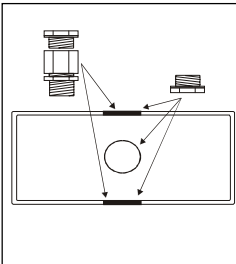

Fig. 1 : Cable Gland Positions
- 6 Make cable entry holes in the plastic and metal boxes by removing suitable knockouts (Refer to Fig. 1).